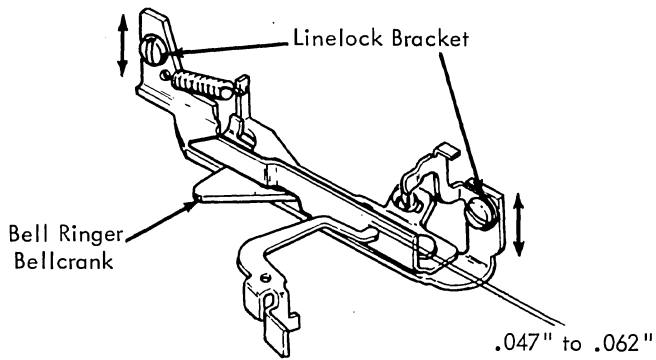

FIGURE 182A. Line Lock Bracket
6. Line Lock Bracket - Adjust the line lock bracket up or down so that the bellringer bellcrank will ride $.047''$ to $.062''$ from the bottom as the carrier moves into the line lock position. (Fig. 182A).